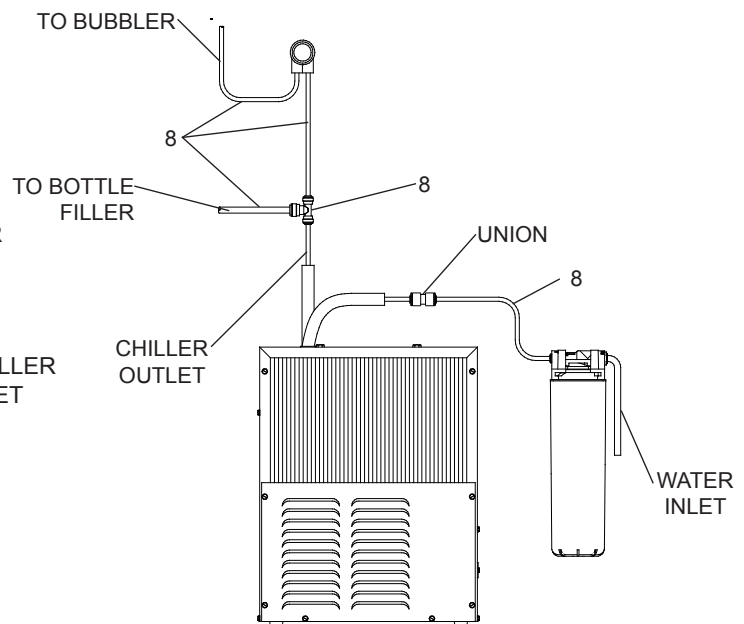

**Figure 4 – LZWS-ERP8-RF Filter Mounting
4. **(For LZWS-ERP8-RF)** If an existing filter is not present, install filter bracket on chiller (Fig. 4), then install the filter head to the bracket, plumb from the filter outlet to the chiller inlet with  $\frac{1}{4}$ " poly tubing and  $\frac{1}{4}$  x  $\frac{1}{4}$  union, install filter.